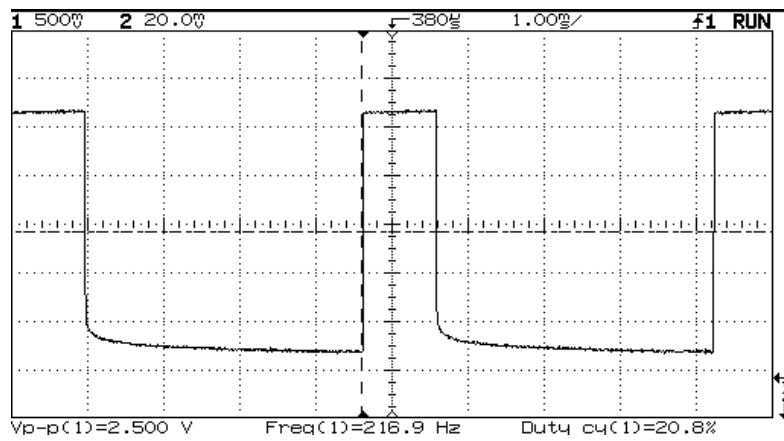

Fig.3.6 RX\_ON2
3. **RX\_ON2** ( Control signal which supplies the GSM LNA, the RX demodulator and internal buffer's). See figure 3.6.